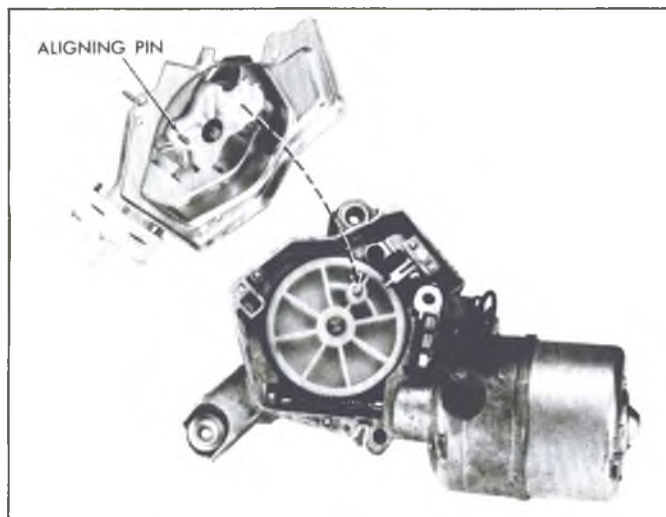

Fig. 16—Washer Mechanism Mounting on Wiper
Figure 16 shows the assembly of the washer pump to the wiper motor.
1. Remove washer pump (fig. 16).